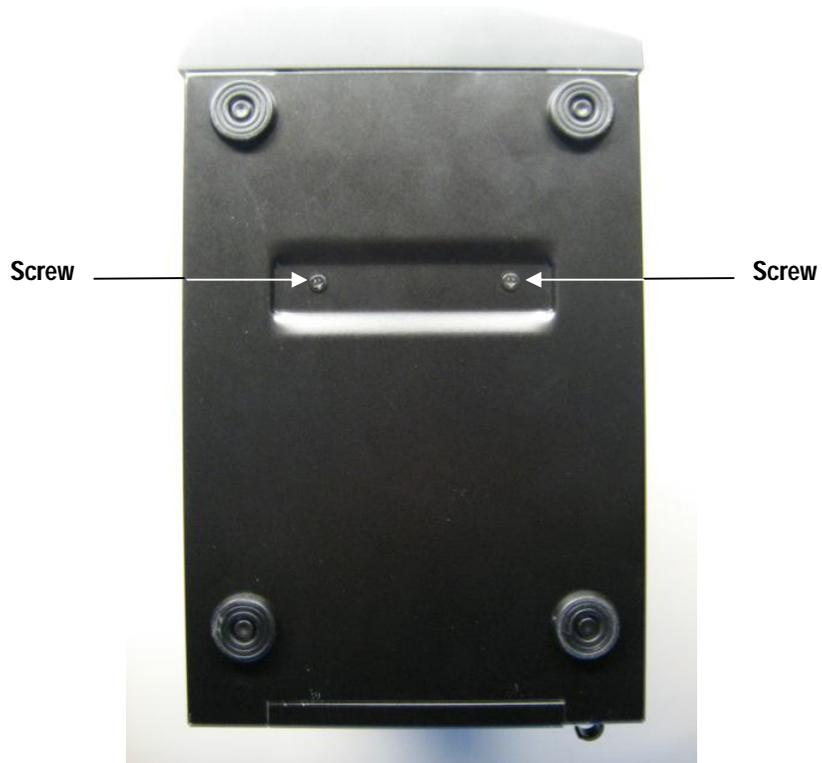

Figure A-25 Remove These Two Screws on the Bottom of the Chassis
5. Remove the two screws shown in Figure A-25 found on the bottom of the chassis.